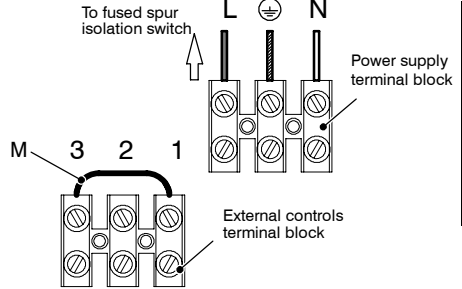

Fig. 6.14
- 6 Connect the electrical supply flexible cord coming from the fused spur isolation switch to the power supply terminal block of the boiler (Fig. 6.14) keeping the same connections for the live (brown wire) and the neutral (blue wire). External 3 A fuse or fused plug with same current rating is recommended.
**When connecting any type of external control, the link M in Fig. 6.14 must be removed.**